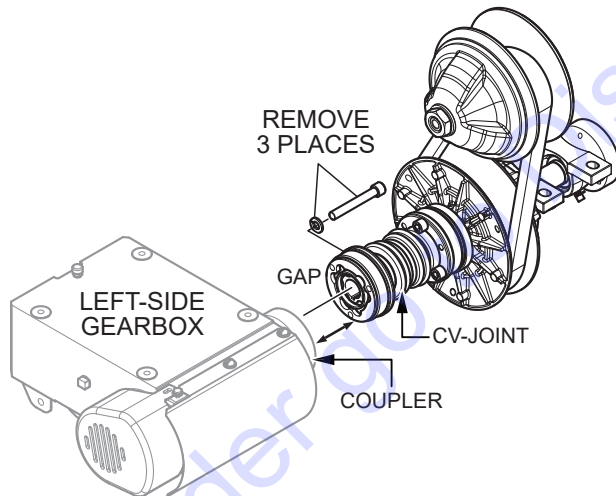

Figure 37. CV-Joint Removal
2. Starting at the left-side gearbox, use a 1/4" Allen wrench and remove the three bolts and lock washers that secure the CV-joint (Figure 37) to the left-side gearbox. Retain the mounting hardware for later use.
3. Once the CV-joint has been separated from the left-side gearbox coupler, push the CV-joint inward so that a gap (Figure 37) exists between the gearbox coupler and CV-joint.